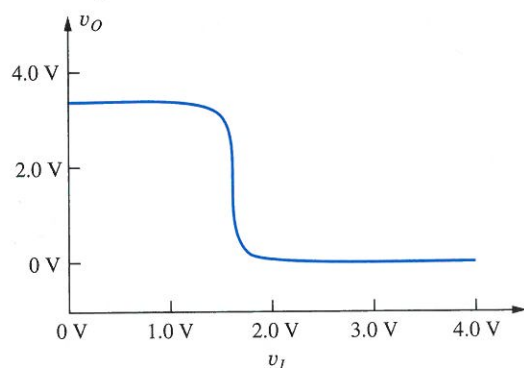

Figure P6.11
- 6.11. The static voltage transfer characteristic for a practical CMOS inverter is given in Fig. P6.11. Estimate the values of V_H , V_L , V_{OH} , V_{OL} , V_{IH} , V_{IL} , NM_H , and NM_L .